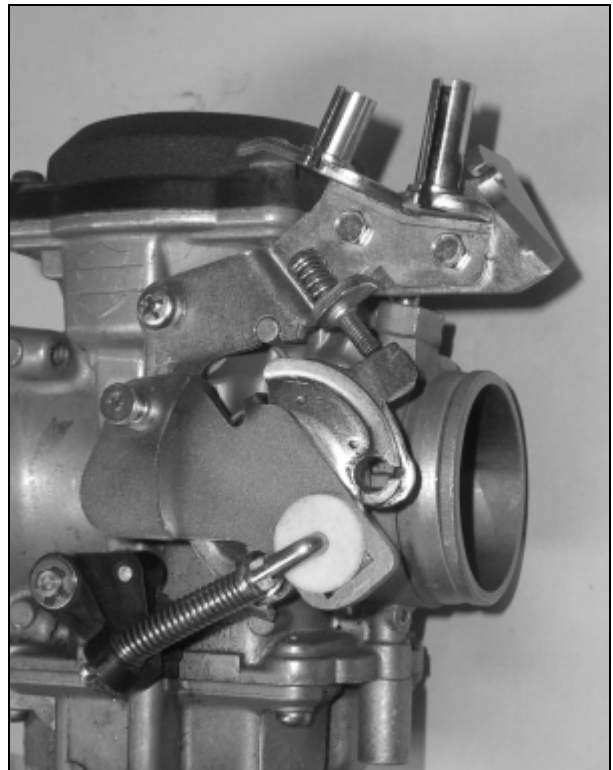

Figure 9. Carburetor with Kit Installed
17. See Figure 9. Install cruise control cable bracket to throttle cable bracket using supplied machine screws and lock nuts. Use liquid thread lock on machine screws before assembling. Make sure screw heads are on throttle cable bracket side and lock nuts are on cruise control cable bracket side. Make sure cruise control cable bracket hole and slot face away from carburetor.
18. See Figure 9. Position cruise control wheel pin bracket so retaining leg near wheel pin end of bracket will engage throttle shaft boss. Position opposite end of bracket over the